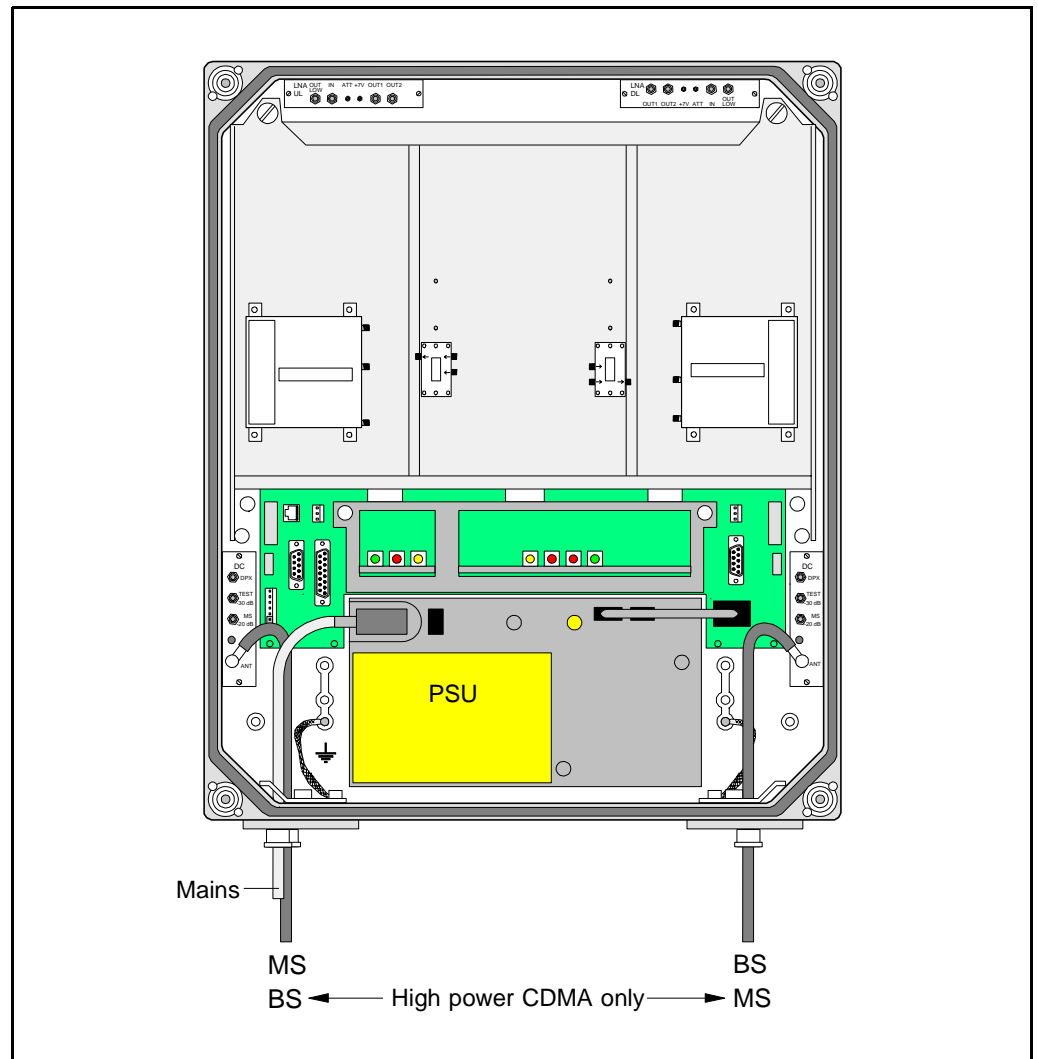

Figure 3-7. MS and BS antenna connections
1. Connect the service and donor antenna coaxial cables (see Figure 3-7). N type female connectors are used in the repeater.
The donor antenna (BS) is connected to the right in the cabinet, except for the high power CDMA repeater for which the donor antenna is connected to the left in the cabinet (see Figure 3-7).
The service antenna (MS) is connected to the left in cabinet, except for the high power CDMA repeater for which the service antenna is connected to the right in the cabinet (see Figure 3-7).